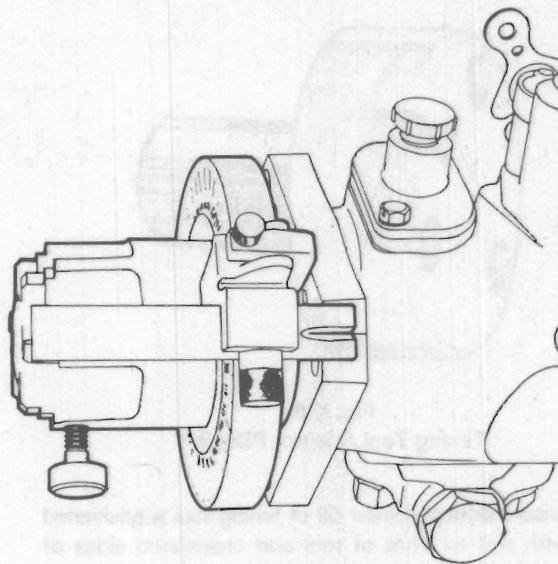
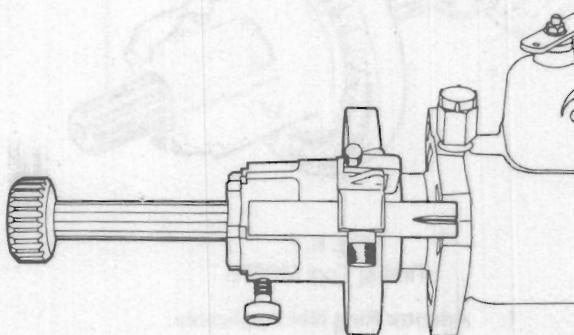

Fig. K.10.
Fig. K.11.
4. Position timing tool on pump drive shaft with master splines engaged and tool locating on spigot (see Fig. K.10). With dowel drive pumps, locate splined shaft in hub, slide tool towards pump to rest on end of hub and lock shaft in tool (see Fig. K.11).